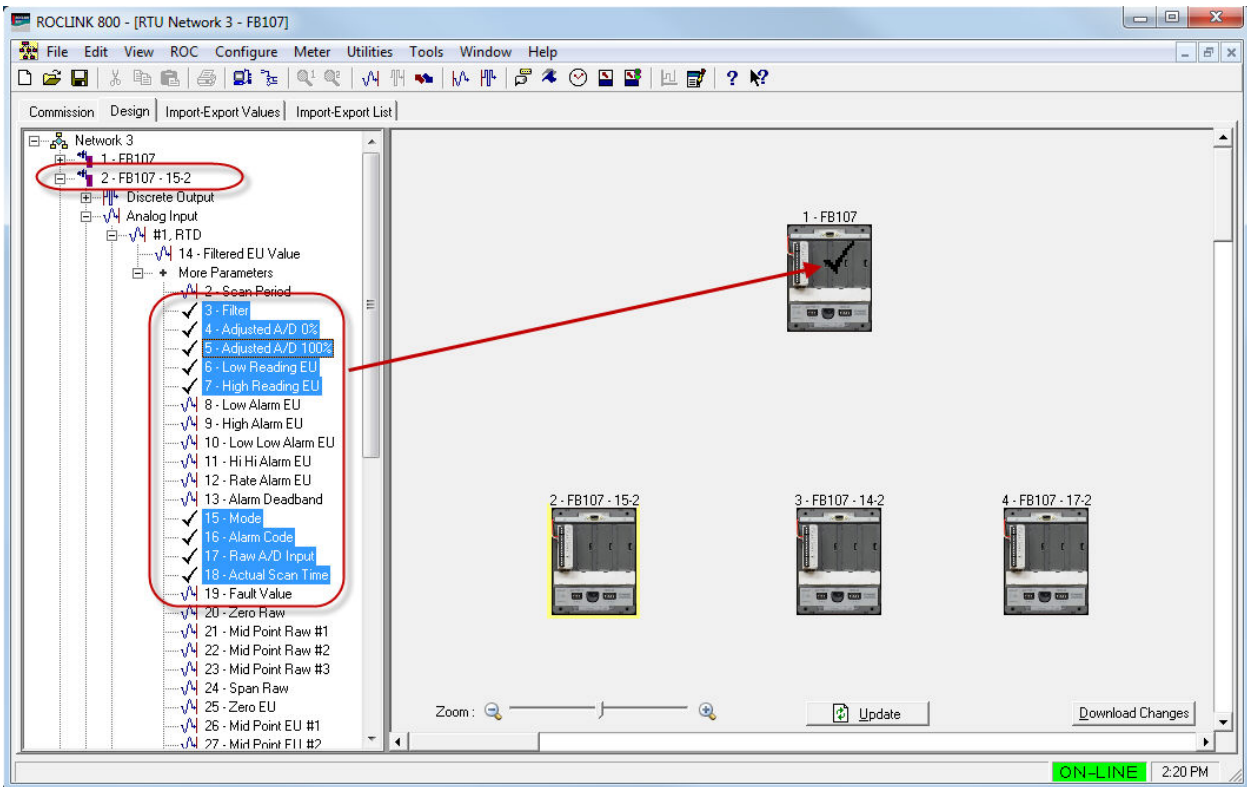

Figure 3-18. Expanded Values in Device Tree (1)
1. Select the device in the design workspace. The device tree displays all the device point categories available to export to another device and all currently defined imports and exports (see *Figure 3-18*).